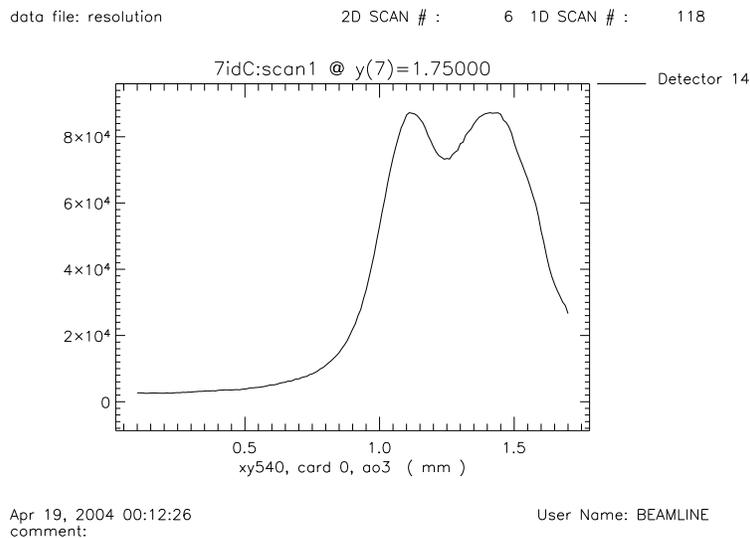

Figure 1: Saturation of a bicron in high count rate situation. The data should be corrected for non-linearities well below the dip in intensity.
- Bring in a spectroscopy amplifier, a Canberra 2022 or 2025 and connect the preamplifier connector at the back of the amplifier to the Bicron preamplifier connector (DB-9). Connect the bicron signal BNC to the input BNC of the amplifier. The settings of the amplifier are shown in table 1. It is highly advisable to T off the amplifier output to an analog oscilloscope. A bicron can be easily damaged if overdriven by more than 150 kcps. Its output is non-linear above 50 kcps as shown in Figure 1.